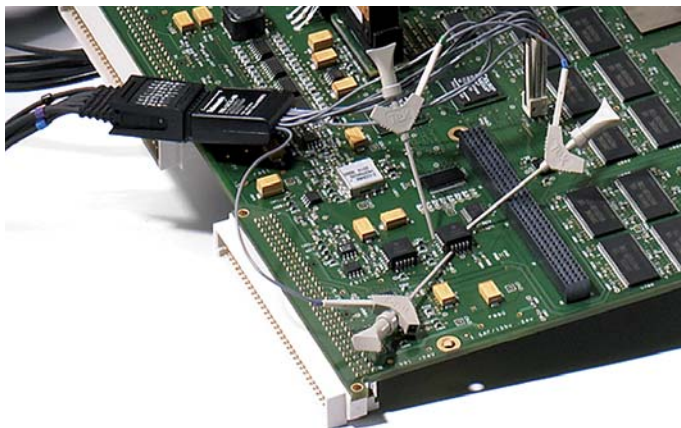

Figure 4. General purpose probe.
- General purpose probes with “flying lead sets” intended for point-by-point troubleshooting as shown in Figure 4.